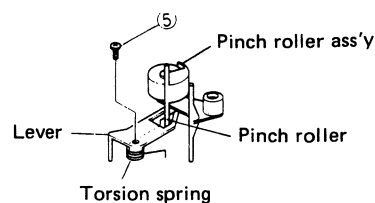

Fig. 8
- 1) Perform steps 1) through 3) above. (Fig. 8)
- 2) Take out screw ⑤ retaining the guide lever and remove this from the pinch roller guide. (Fig. 8)